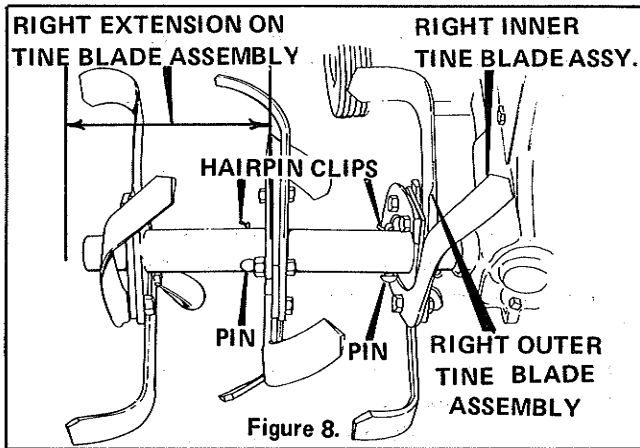

Figure 8.
8. Depending upon what tilling width desired, install right and left tine blade assemblies as follows. Use a pin and cotter pin for installation. See Figure 8 for right inner, outer, and extension tine installation.